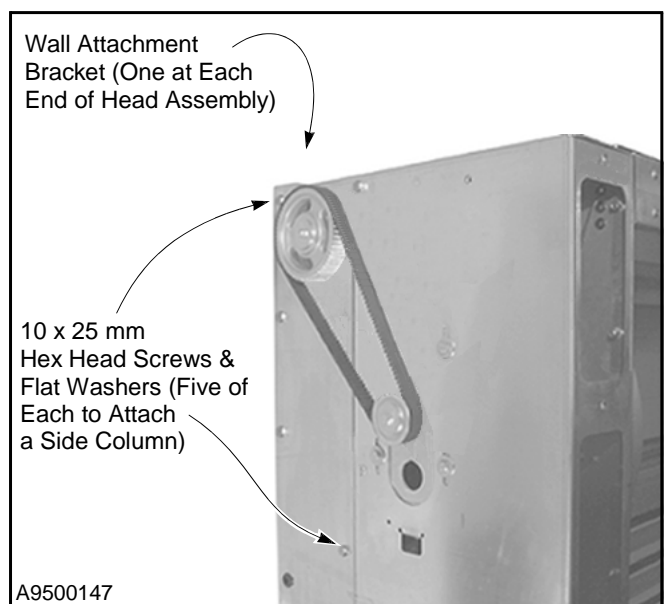

Figure 22
4. Attach the head assembly to the two side columns. Use five 10 x 25 mm hex head screws (bolts) and five flat washers to secure each end of the head assembly to a column. The mounting hardware is located in the small parts carton. (See Figure 22.)